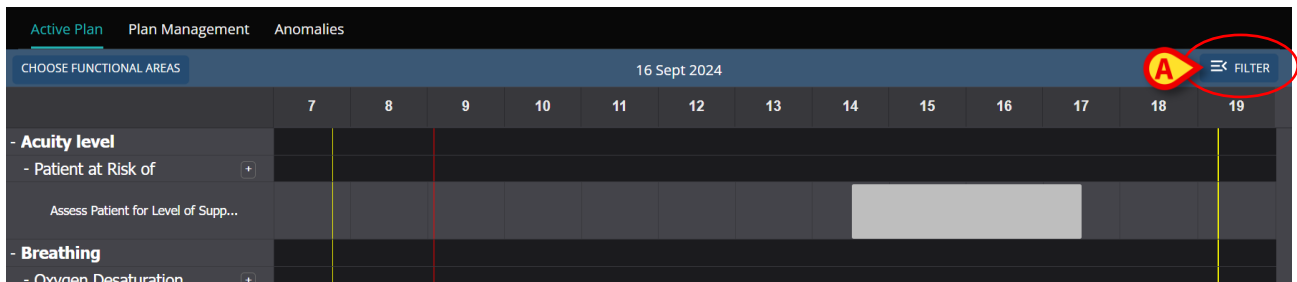

Fig 96
- Click the Filter button on the top-right corner of the screen (Fig 96 **A**).